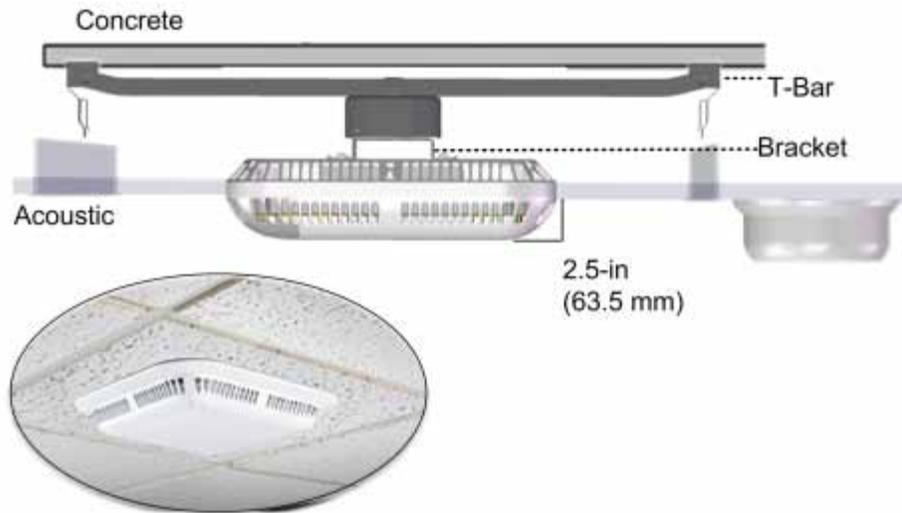

Figure 5-56. Mid-Mount Acoustic Ceiling Installation
- Below Ceiling – 1-in minimum between ceiling tile and RAU (shown in Figure 5-56)
- Mid-Mount – 2.5 in (63.5 mm) between ceiling and lowest part of RAU (shown in Figure 5-56)